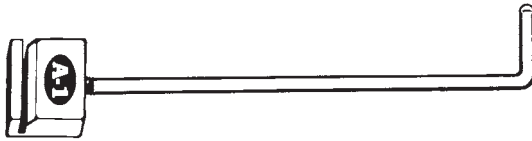

Figure 2.32 A door trim pad clip removal tool is used for automotive work. (A-1 Security Manufacturing Corp.)
- Door trim pad clip removal tool (Fig. 2.32)